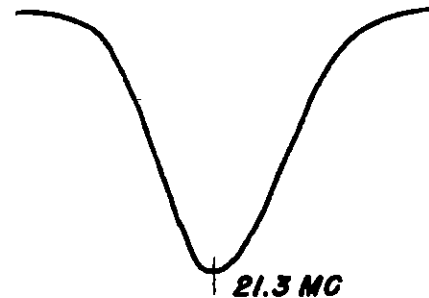

Fig. 42 Sound I. F. Response
2. Connect the scope to point "B" and chassis (limiter grid.) Connect output #1 to point "D" (grid, 2nd I. F.) to chassis. Adjust L4 and L5 for symmetry and gain with the 21.3 Mc marker falling at the center of the response curve (See fig. 42).